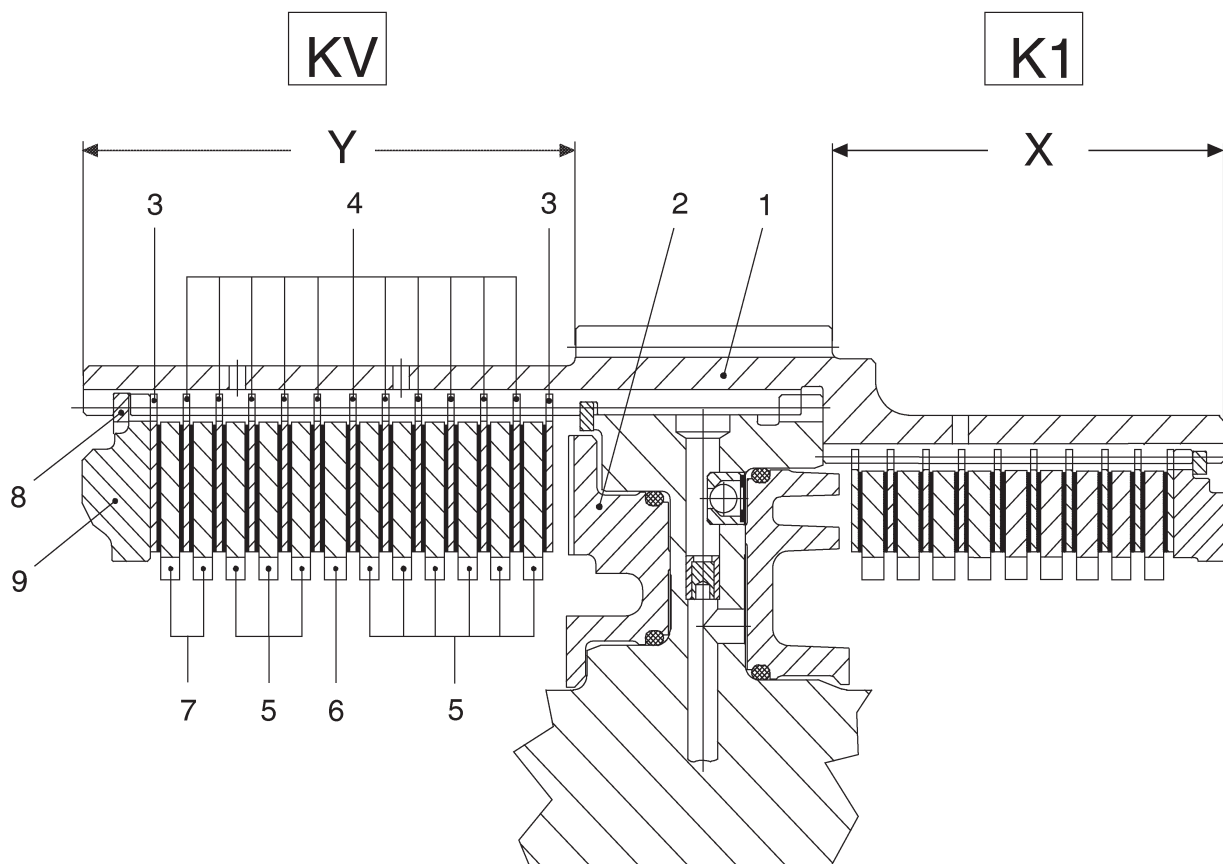

Figure 201
(1) Install disc set according to sketch or table (figure 201).